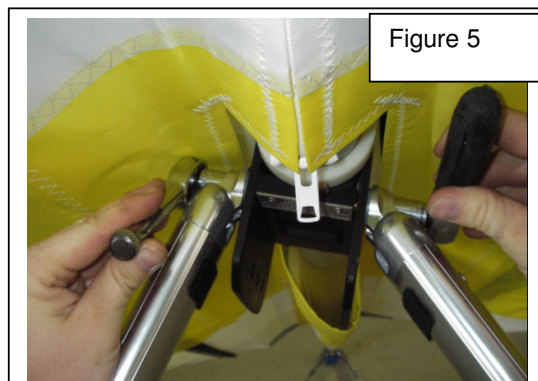

Figure 5
10. Undo and remove AN5 bolt that passes through the u bracket attaching both down tubes, see figure 5.